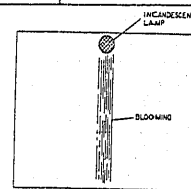

Fig. 4-4
(4) Sensor Sub Voltage Adjustment (Figs. 4-4, 4-51)